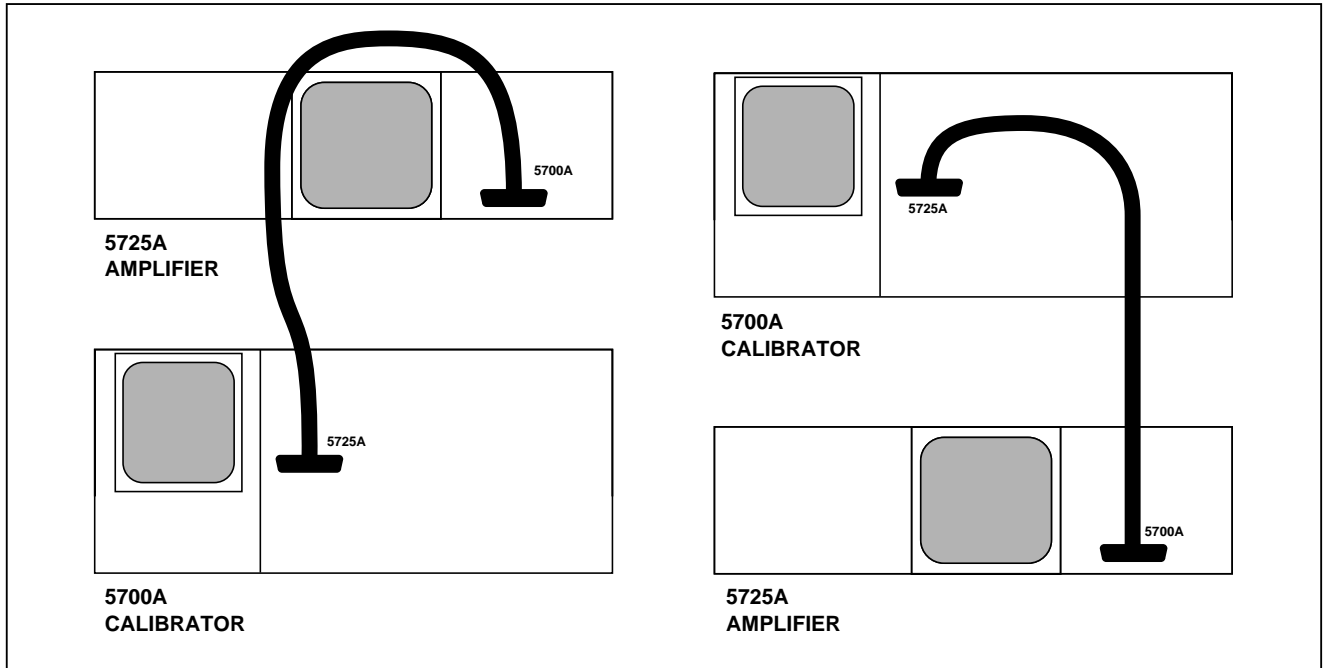

Figure 3. Correct Way to Dress Interface Cable
2. Connect either end of the interface cable to the 5725A connector labeled 5700A. Dress the cable only as Figure 3 shows. The figure shows how to dress the cable in installation arrangements with the 5725A on top or bottom.